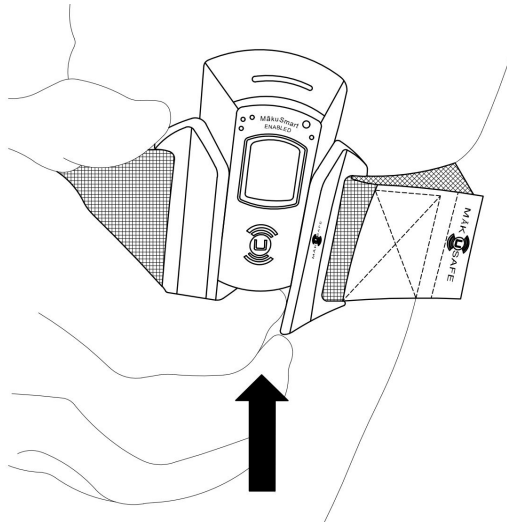

Figure 9
2. Remove the wearable device from the holster by gently pressing up on the bottom of the wearable device. (Figure 9)